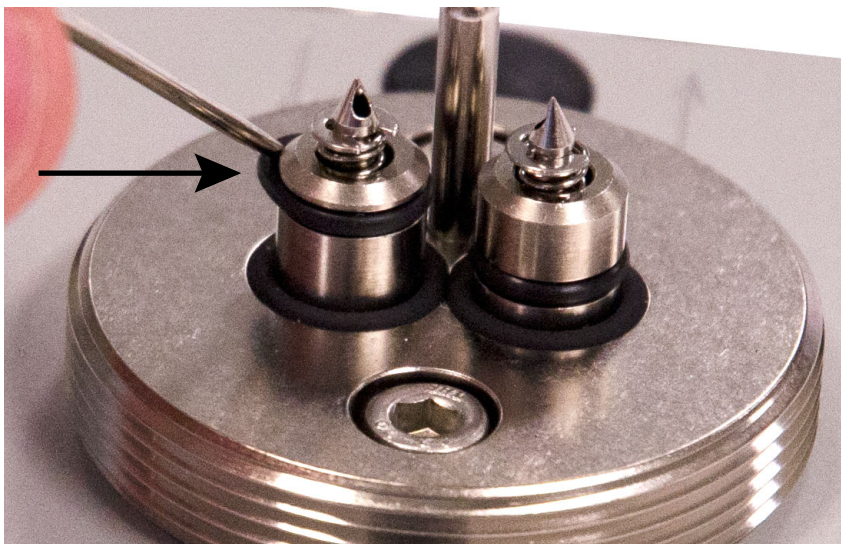

Figure 42. Remove upper pair O-rings only when replacing filter
- 6 Remove the old upper set of O-rings using the supplied tool and replace with new O-rings (**Figure 42**).